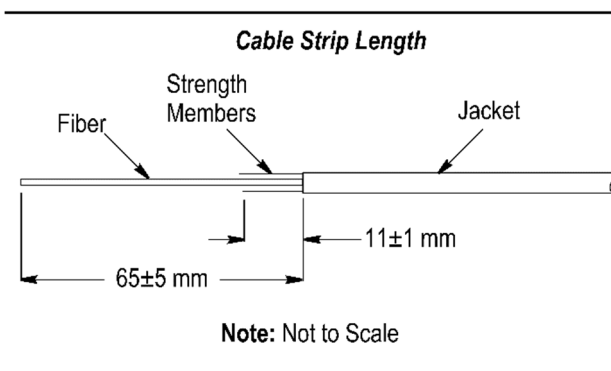

Figure 3
- Using the cable jacket strip tool, strip the jacket to the dimension given in Figure 3, exposing the strength members and fiber. Save the stripped piece of cable jacket for later use.
- Using the aramid fiber shears, trim the strength members to the length given in Figure 3.